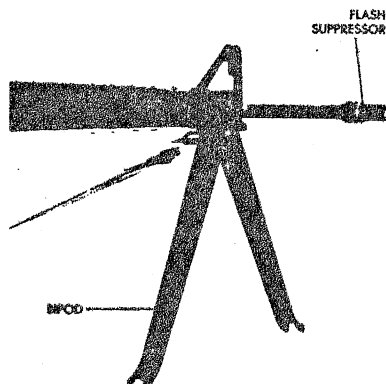

Figure 1-5
- A bipod may be instantly mounted on the barrel at the front sight, as shown in figure 1-5.